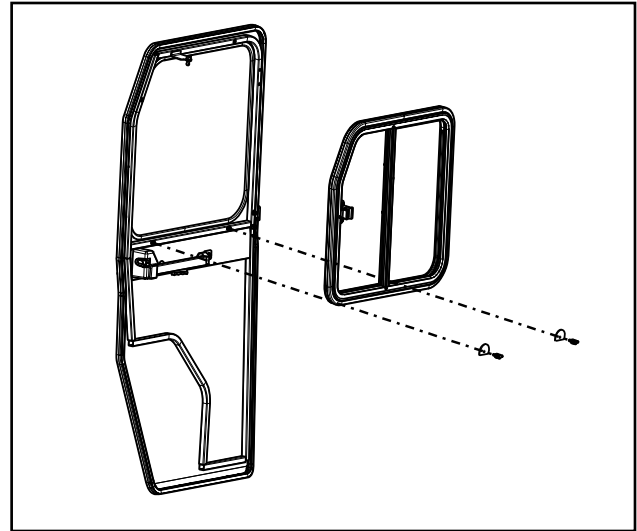

Fig. 17.1 Removable sliding windows
- 17.1** The doors are packaged with the removable sliding windows installed. Per figure 17.1, remove the sliding windows to ease assembly. To do so, loosen the thumb screws at the bottom of the sliding window.